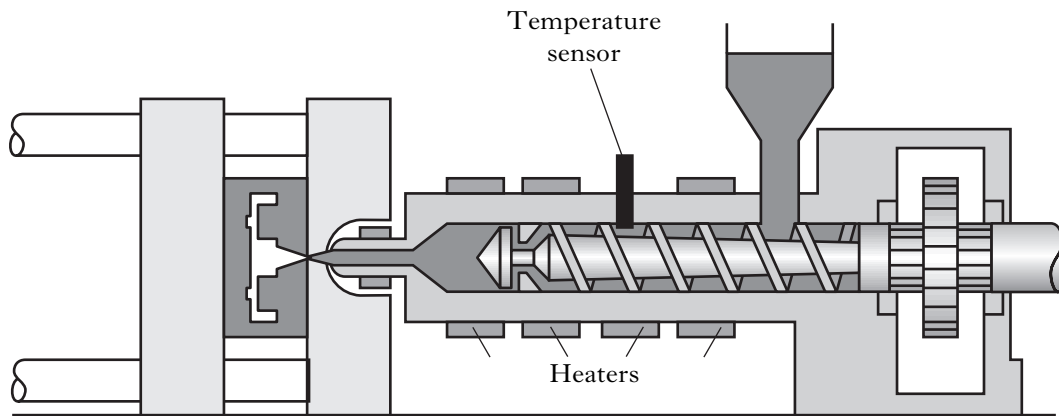

Figure Q6
6. The diagram in Figure Q6 shows an injection-moulding machine, used for making plastic components. In order to maintain the plastic within the correct temperature range, the heaters are proportionally controlled using a microcontroller.